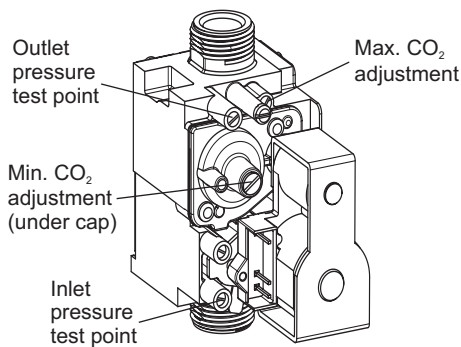

Fig. 26
2. Loosen the gas inlet pressure test point screw on the gas valve (see Fig. 26) and purge in accordance with BS 6891.
5.6 CHECK THE BURNER PRESSURES AND COMBUSTION - Figs. 26 and 27